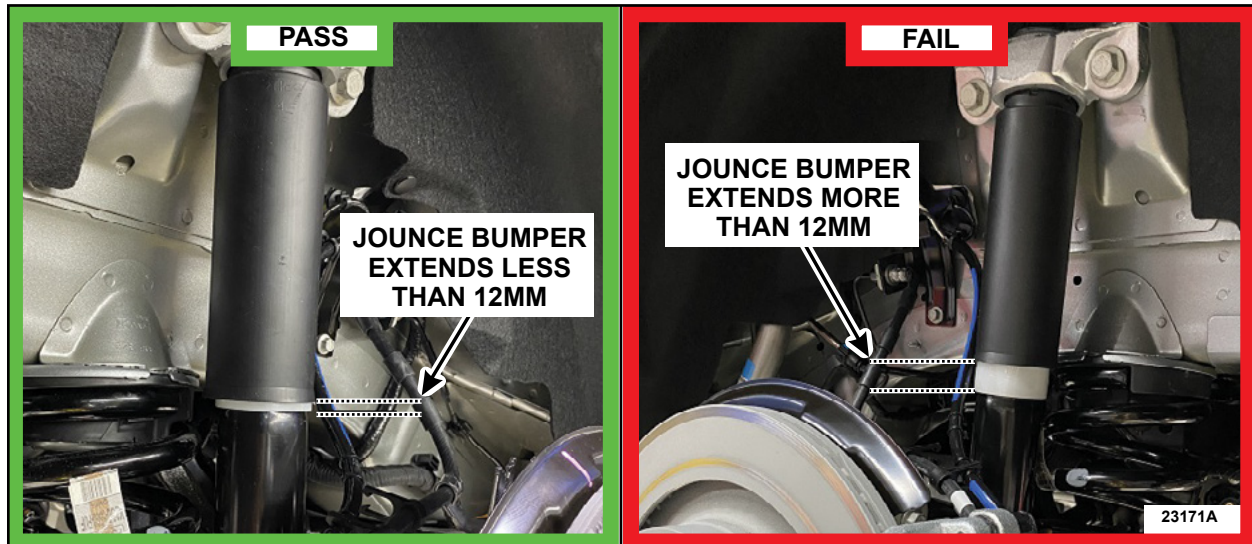

FIGURE 2
4. On both sides, using a ruler or equivalent measuring tool, measure the amount of shock absorber jounce bumper that extends past the dust cover boot. Is there more than 12mm (0.47 in.) of jounce bumper extending past the boot on one or both sides? See Figure 2.